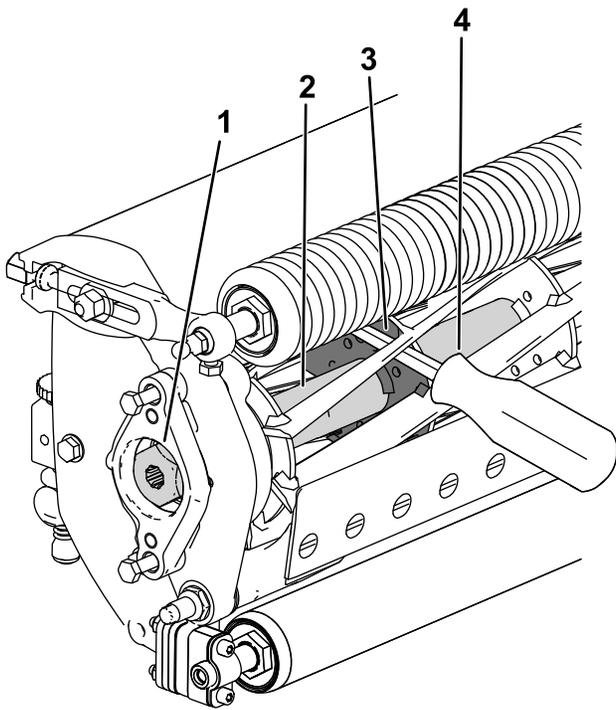

Figure 32
2. Insert a long-handled pry bar (recommended 3/8" x 12" with screwdriver handle) through the bottom of the cutting reel, closest to the side of the cutting unit that you will be torquing (Figure 32).
3. Place the pry bar against the weld side of the reel support plate (Figure 32).